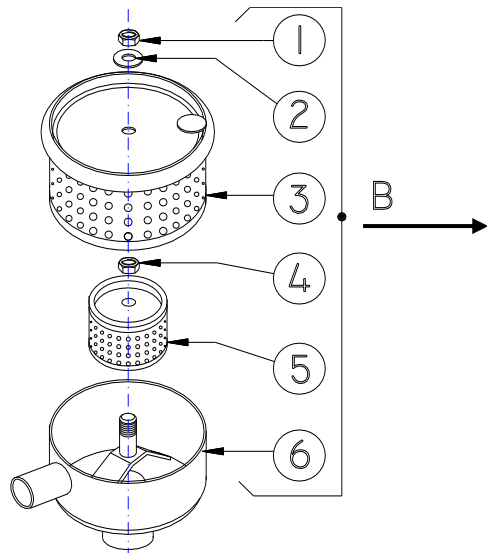

Figure 13.4.1A Aspiration air filter
The filter consists of two filtering elements. To check them, loosen the nut (Figure 13.4.1A, (1)) and remove the element of the 1st stage (outer) (3). Should any traces of dust be noticed on the element of the 2nd stage (inner) (5), remove this one also by removing the nut (4).